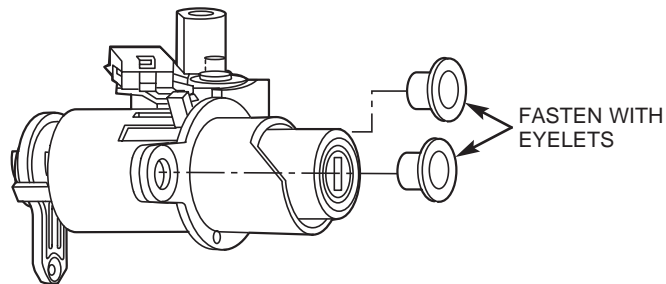

FIGURE 7
17. (Refer to Figure 7). Insert one eyelet (L) into each of the matching holes on the housings.
18. Insert the portions of the housings which already have the eyelets and the matching holes into a vice and use the vice to compress the eyelets until the eyelets have deformed enough to hold the two (2) housings together.